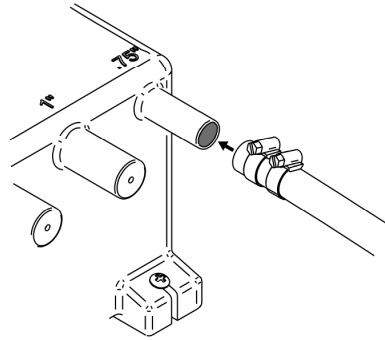

Figure 7 Securing Hose to Tank Port
Step 3: Secure all hosing onto the selected ports using appropriate hose clamps, as shown in Figure 7. Check no leaks occur. Do not overtighten hose clamps.